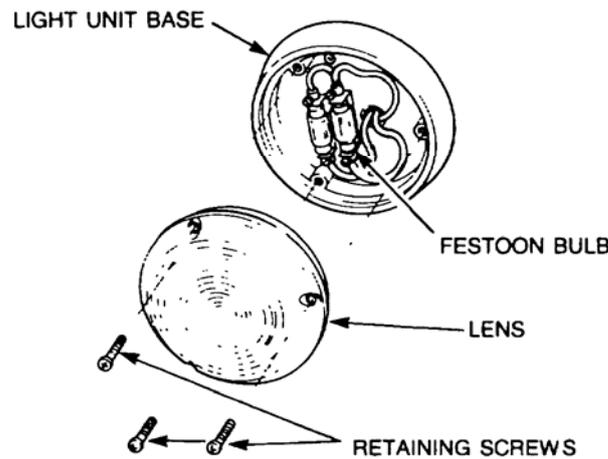

Figure 8 Interior Ceiling Light Bulb Replacement
- a. Remove the three screws securing the lens to the base of the light unit (refer Figure 8).
- b. Remove the three screws securing the lens to the base of the light unit (refer Figure 8).